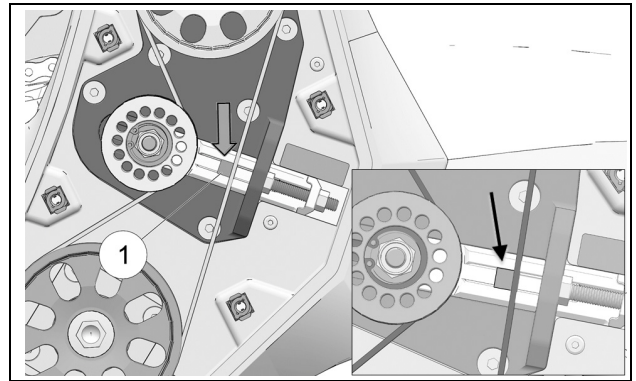

Figure 46
- Slide the red tension gauge (1), incorporated in tensioner mechanism, to the outer edge of the Syncrodrive belt. See Figure 46.